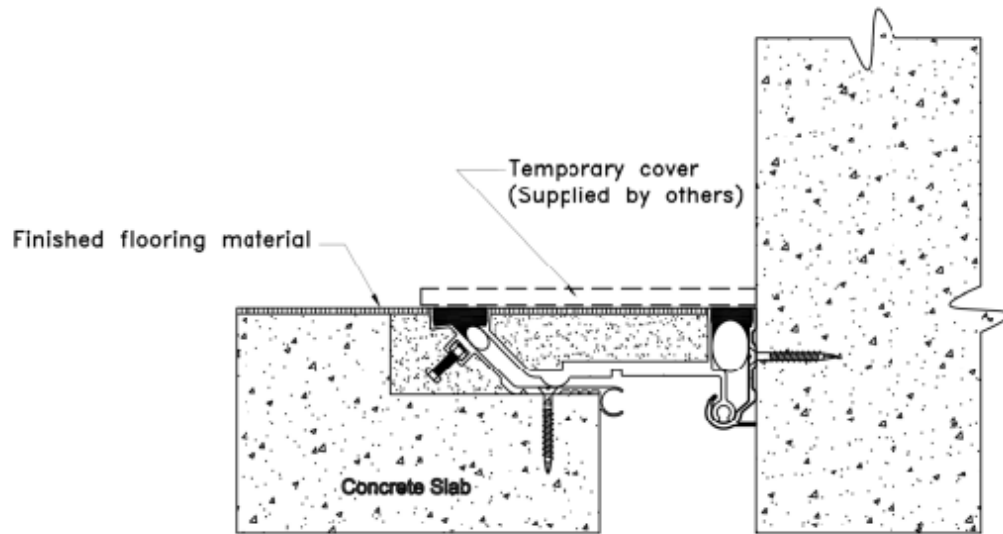

FIGURE 15
15. Installing contractor shell cover and protect the finished expansion joint assembly from damage during installation of finish floor materials. The expansion joint assembly is a finished product. Damage to expansion joint finishes and components are excluded from warranty. **SEE FIGURE 15**